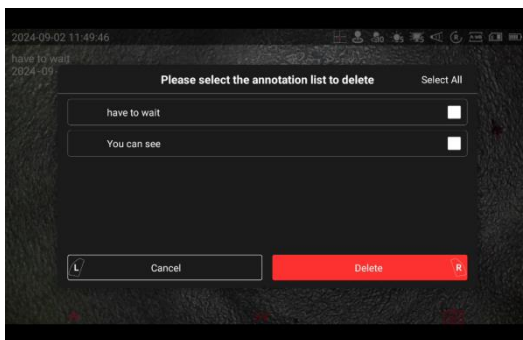

Figure 8-26
2) click the  [Delete] icon to enter the delete window, select the ones needing to delete and click “Delete”(as shown in Figure 8-26);